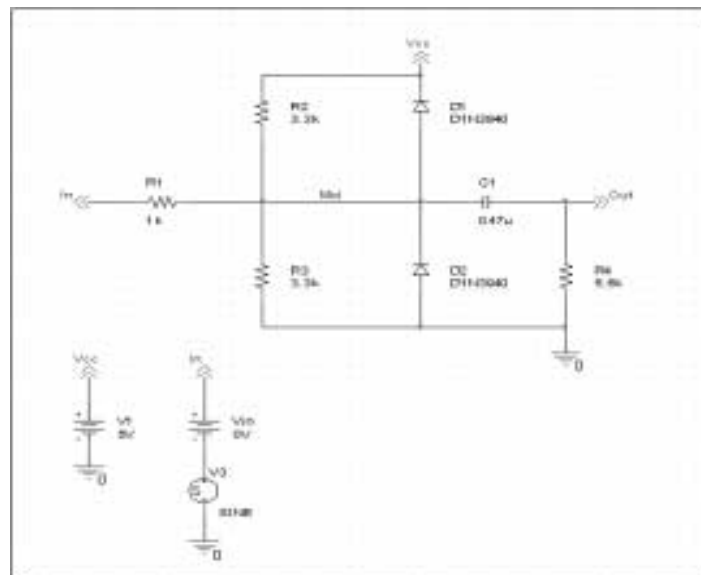

Figure 2-13 Diode clipper circuit with a voltage stimulus.
This example shows how to run a transient analysis on the clipper circuit. This requires adding a time-domain voltage stimulus as shown in Figure 2-13.
- 5 Place a VSTIM part (from the PSpice library SOURCSTM.OLB) as shown in Figure 2-13.
- 7 Place the ground part under the VSTIM part as shown in Figure 2-13.